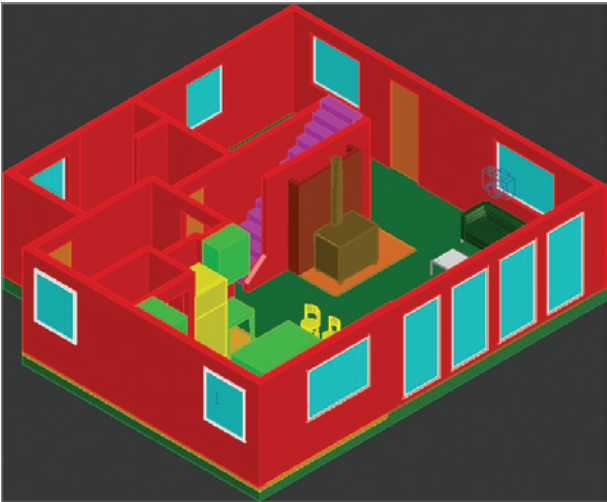

FIGURE 18.1 3D house model
- 1. Go to the book’s web page at www.sybex.com/go/autocad2014_essentials, browse to Chapter 18, get the file Ch18-A.dwg, and open it. This is a model of the author’s house (see Figure 18.1).